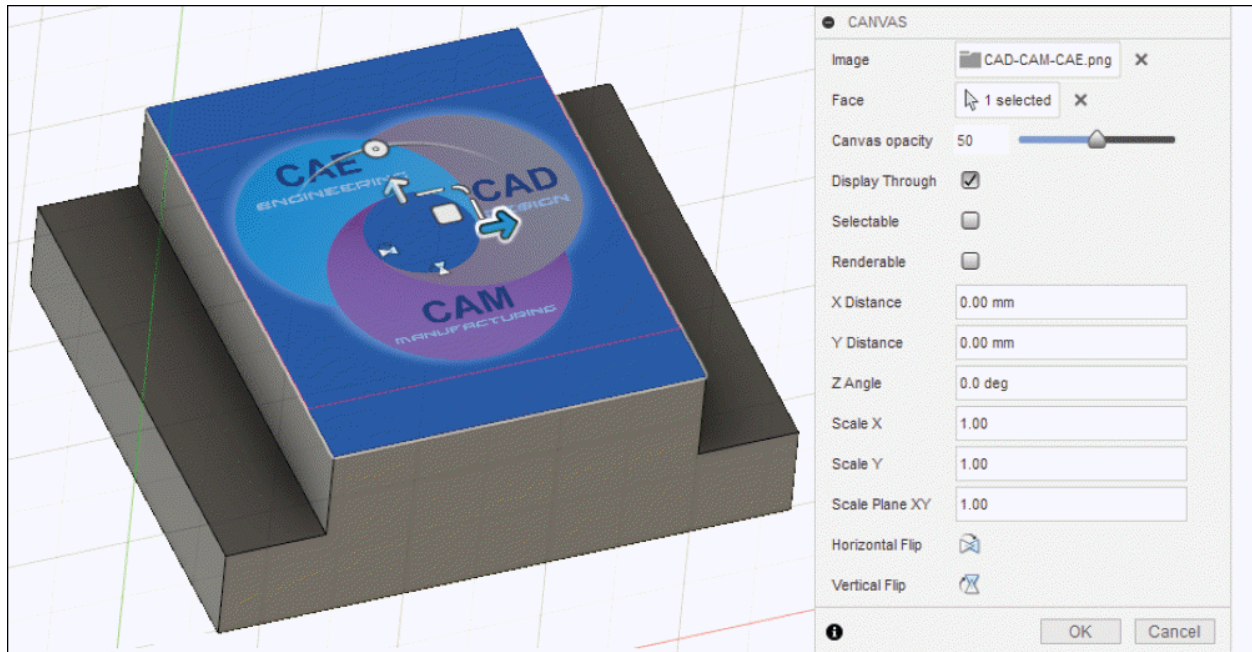

Figure-13. Updated CANVAS dialog box
- The **Select** button of **Face** section is active by default. Click on the face of model/plane where you want to place the canvas image. The updated **CANVAS** dialog box will be displayed; refer to Figure-13.